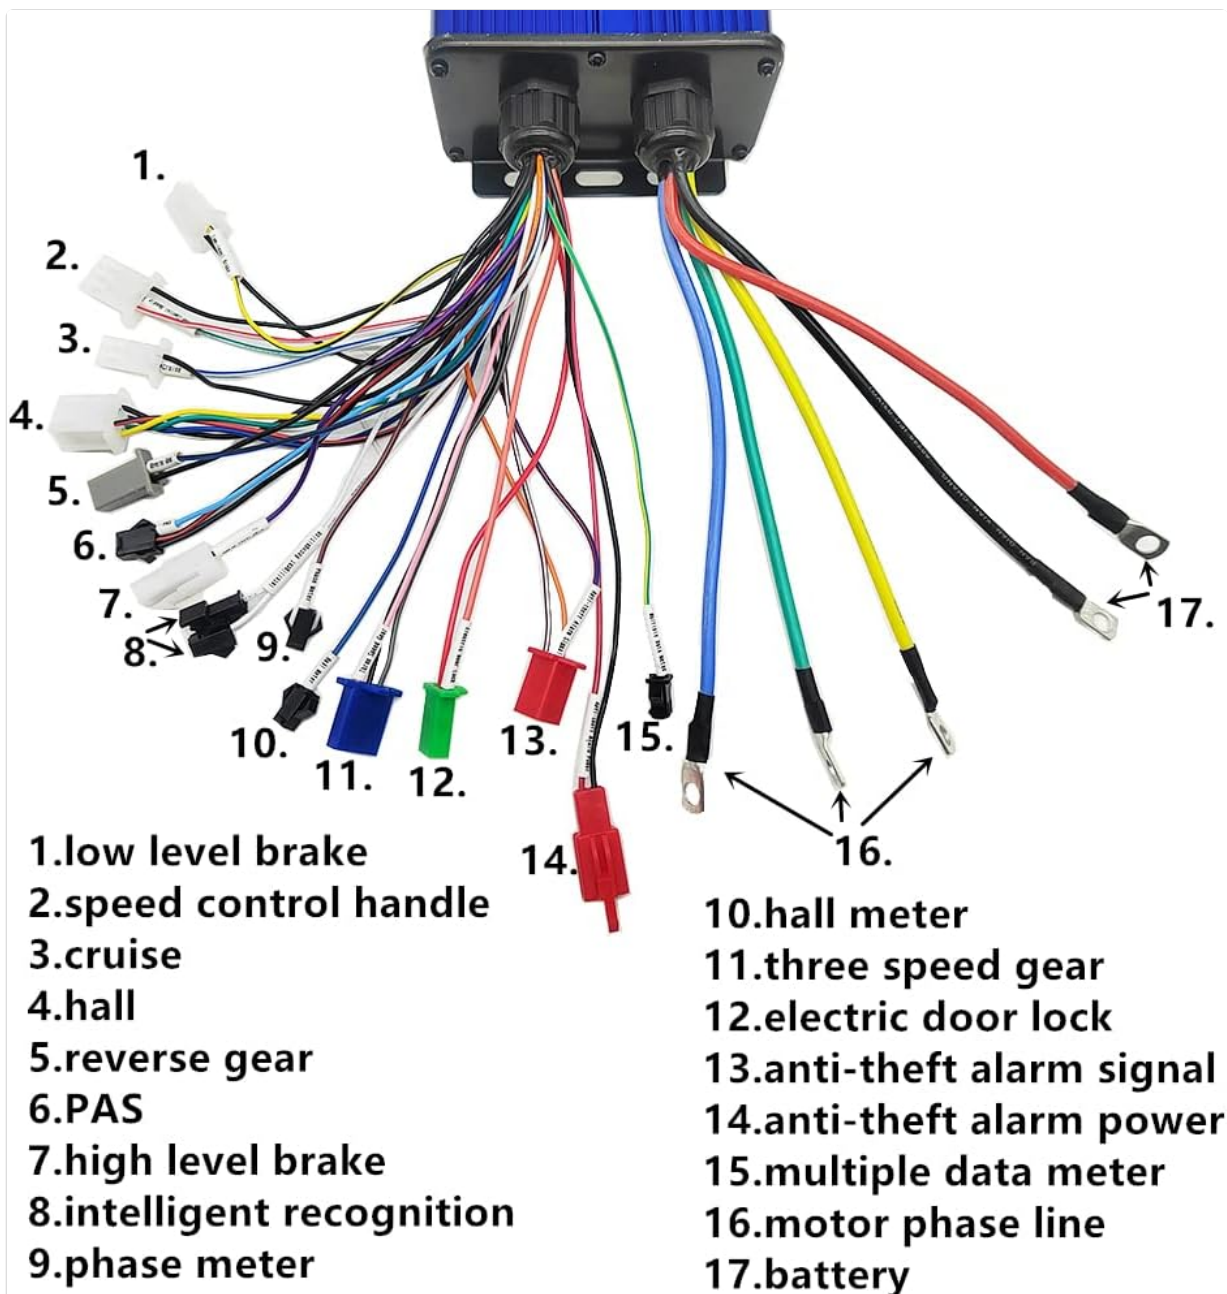

Figure 4: Comprehensive wiring diagram illustrating each connector and its corresponding function for the controller.
6. **Additional Functions:** Connect other functions as needed, referring to the list below and the wiring diagram (Figure 4).